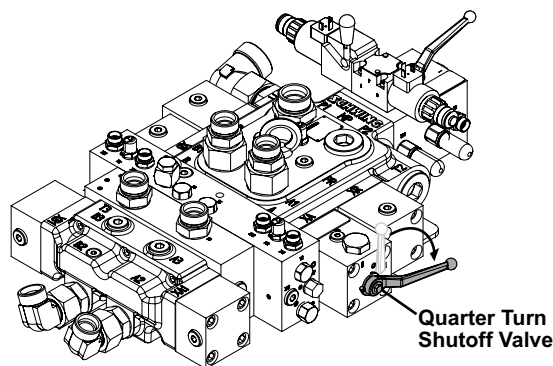

Figure 30
10. Open the shutoff valve (Figure 30). The unit will not stroke with this valve closed.